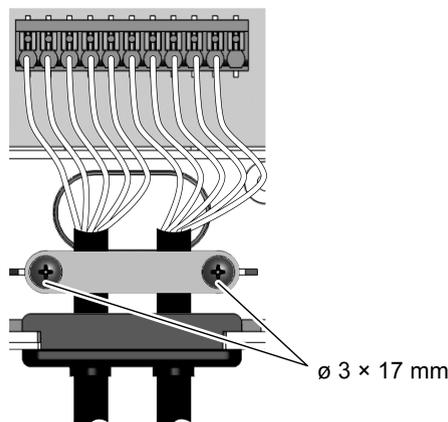

Figure 3: Example of cable routing
- Run all the connection cables (exception: USB connection cables) into the connection compartment as shown (Figure 3).